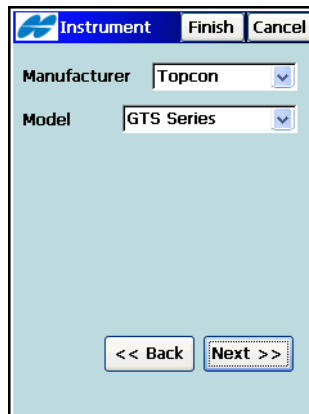

Figure 3-54. Instrument Screen
The **Instrument** screen (Figure 3-54) contains typical total station parameters and communication settings.
- **OK** – saves the settings and returns to the *Instrument* screen (Figure 3-54 on page 3-53).